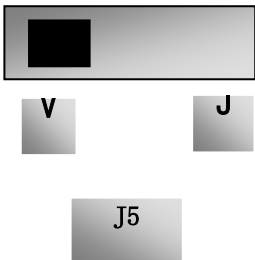

Figure 8-6
- xi. Analog output terminal AO1 can output voltage and current signal, the selecting switch is J5, please refer to **Figure 8-6** the output relation is shown in Table 8-3.